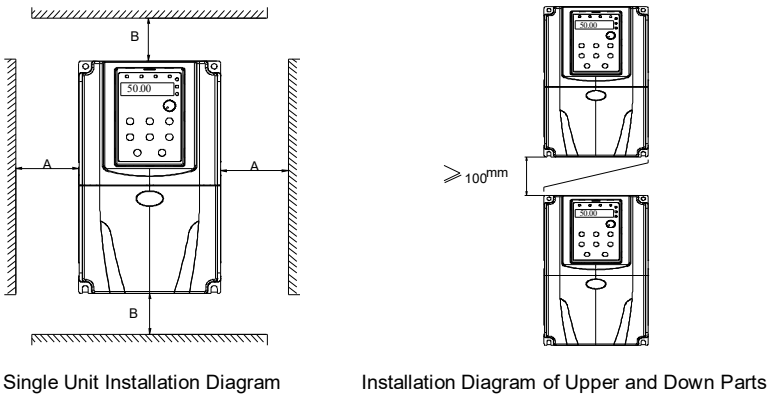

Figure 3-1 Installation Diagram
- 1) Install the inverter vertically so that the heat may be expelled from the top. However, the equipment cannot be installed upside down. If there are multiple inverters, parallel installation is a better choice. In applications where the upper and lower inverters need to be installed, please refer to Figure 3-1 “MICNO Series Inverter Installation Diagram” and install an insulating splitter.
- 2) The mounting space should be as indicated as Figure 3-1, so as to ensure the heat dissipation space of the inverter. However, the heat dissipation of other devices in the cabinet should also be taken into account.